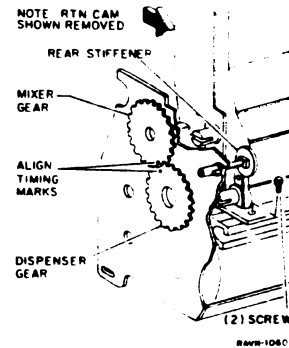

Figure 2. Installing the Dispenser Assembly
1. PUT DISPENSER ONTO DEVELOPER MODULE (FIGURE 2).